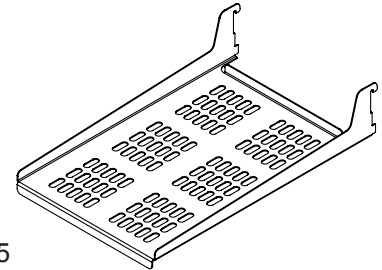

Figure 15
- (2) perforated stainless steel slide out shelves. (See Figure 15).